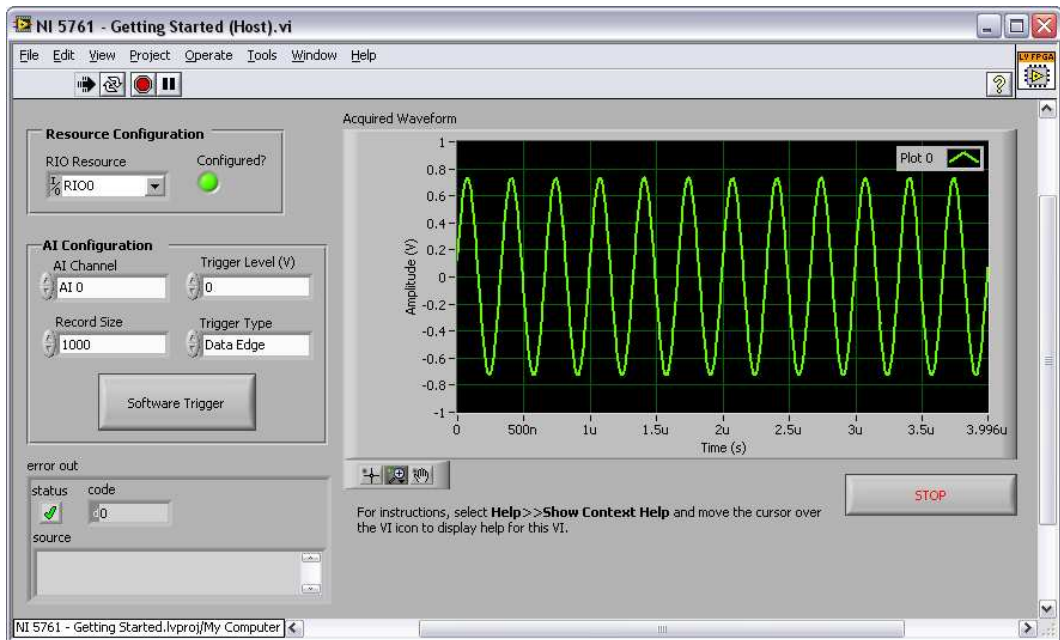

Figure 4. NI 5761 - Getting Started (Host) VI Front Panel
9. Set the **Trigger Level (V)** and the **Record Size** controls to the desired value.
12. Click the **Software Trigger** button if you selected **Software Trigger** in the **Trigger Type** box. The VI acquires data and displays the captured waveform on the **Acquired Waveform** graph as shown in Figure 4.